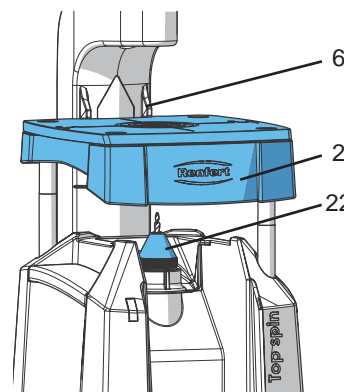

Fig. 8
- ⇒ Press the spindle lock (7, Fig.1) and turn the drill jig (22, Fig. 8) until the spindle lock clicks into place.